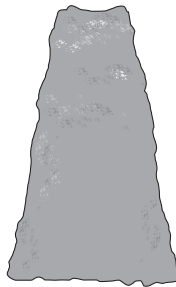

Fig. 12
**NOTE:** When shaping it is advisable to achieve a trapezoidal shape (Fig. 12). A trapezoidal cut corresponds to the natural growth of plants and results in optimal hedge growth, as it will expose more light to the lower end of the hedge.